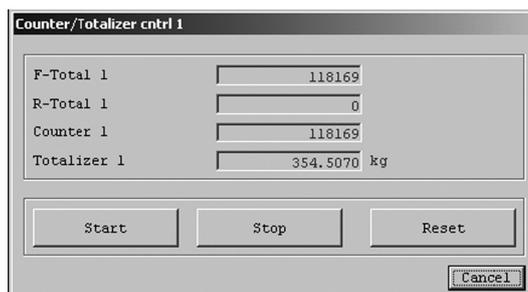

Fig.141
- ① Click the "Diag/Service (T)" menu, and then select and click "Counter/Totalizer cntrl 1" from the "Counter/Totalizer cntrl" drop-down list.
- ② The following window will be displayed (Fig. 141).